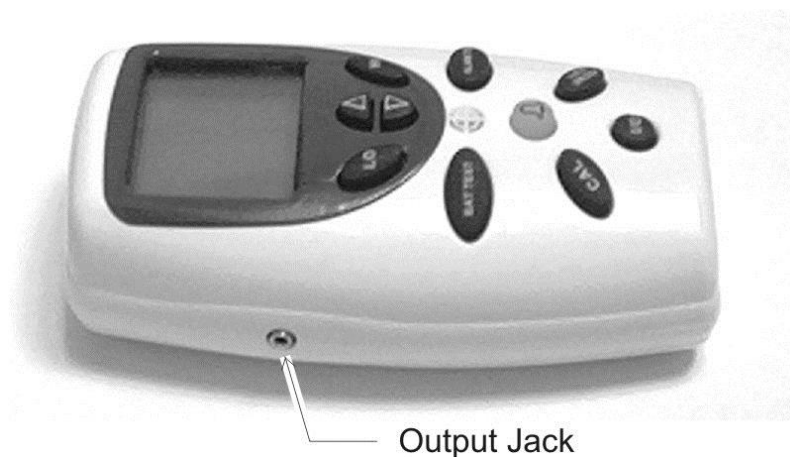

Figure 2-9: 0-1 VDC or RS 232 Digital Output Port
1. Insert one end of the interface cable into the output port on the side of the Monitor. See Figure 2-9.
If you requested Option-B (RS 232 digital output) at the time of purchase, a digital RS 232 signal is output from the output port shown in Figure 2-9. Use the optional RS 232 Interface Cable (P/N B-75555) available from Teledyne for connection to a standard RS 232 port on a computer or other suitably equipped digital device.